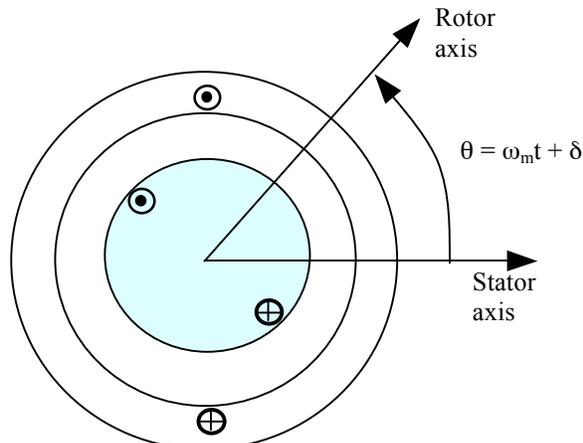

Figure Q1(c)
- (c) An elementary two-pole cylindrical rotating machine with a uniform air gap is shown in Figure Q1(c). The mutual inductance between the rotor and the stator is given by
- (i) Write the general equation of the torque for the machine in Figure Q1(c) as functions of i_1 , i_2 and L_{12} . [2 marks]